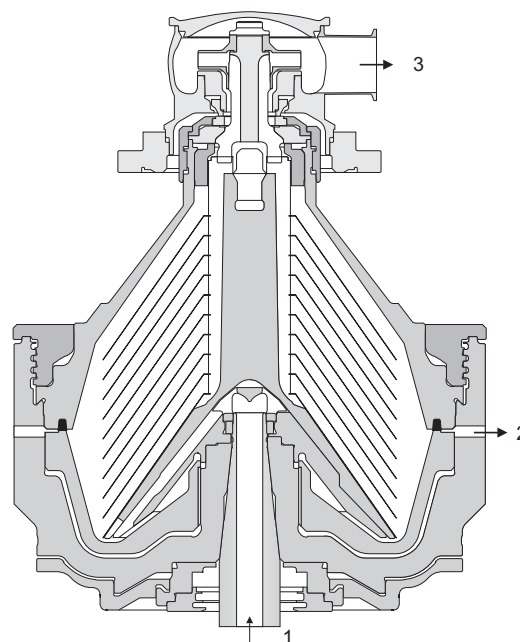

Fig. 1 Typical bowl drawing for a solids ejecting hermetic centrifuge. Drawing details do not necessarily correspond to the centrifuge described.
The process liquid is continuously fed into the unit (Fig. 1) through the inlet (1) and then into the centrifuge bowl through the hollow spindle. The solids are collected at the periphery of the rotating bowl; the control unit initiates discharge either at preset intervals or by turbidity triggering. Separated solids are discharged through the discharge ports (2) and leave the unit through a cyclone or by means of an integrated solids pump. The clarified liquid is transported from the bowl using a built-in pump, through the outlet (3) and then leaves the unit, after passing a sight glass, pressure indicator, flow meter and a regulating valve.